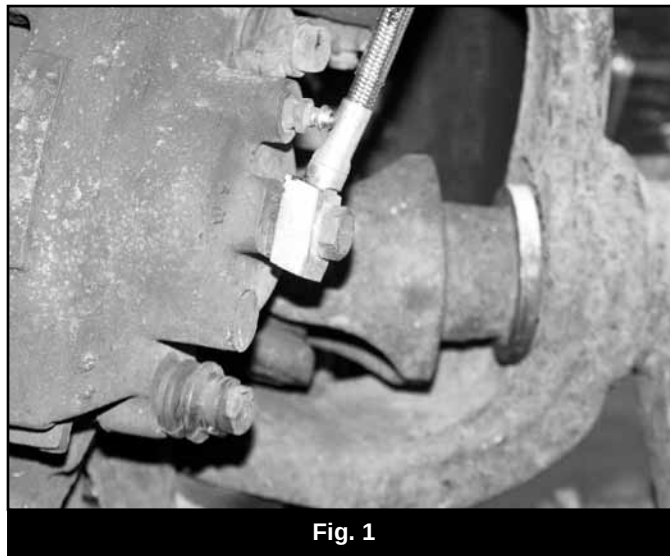

Fig. 1
11. Ensure that the old crush washer is removed from the caliper and that the brake line mounting surface is clean. Attach the new brake line to the caliper using two new crush washers on each side of the hose fitting and the OE banjo bolt. Tighten the banjo bolt to 20 ft-lbs. (Fig. 1)